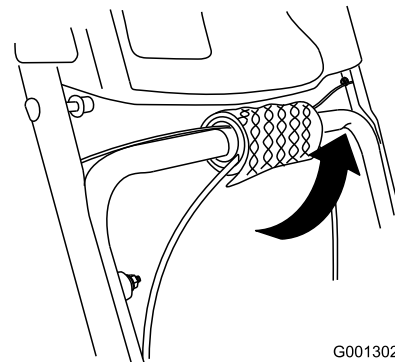

Figure 6
1. Unwrap the cable ends from the lower handle (Figure 6).